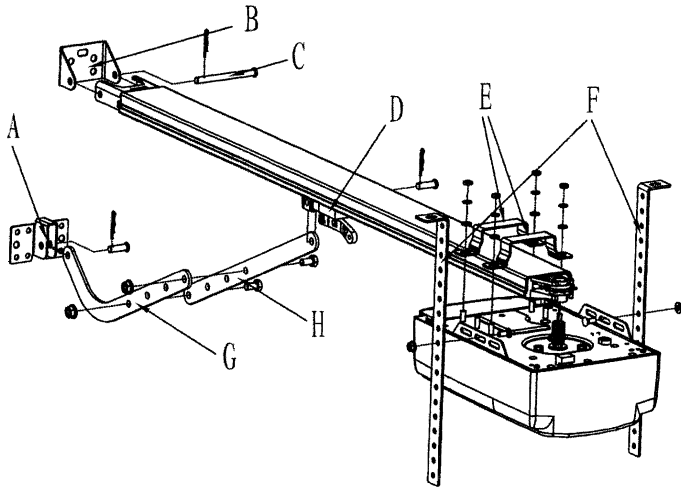

Fig. 5
1. Fixing the wall bracket(B) to the wall 2cm-15cm over the shaft or intermediate bracket ,and should be center horizontally. (depending on the actual installation space).
2. Fixing the steel track to the wall bracket using axis pin $\Phi 8 \times 90$ (C) and cotter pin. (Fig. 5)
4. Fixing the hanging bracket(F) to the edge of the opener as in Fig. 5 using M6x16 carriage bolt(before fastening, cut off any excess hanging bracket).
6. Fix the door bracket(A) to the top edge of the door(should be in the middle and under the wall bracket)
7. Connect the bent arm(G) to the door bracket using a $\Phi 8 \times 25$ axle pin and cotter pin as shown in Fig.5.
8. Install the shuttle(D) to the track using 4pcs of M6x23 screws, tie the clutch cord. Connect the straight arm(H) to the clutch using a $\Phi 8 \times 25$ axle pin as shown in Fig.5.